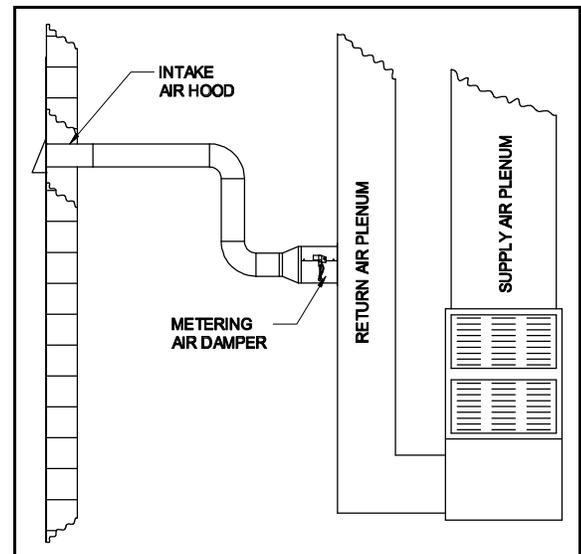

Figure 3
4. Connect flex duct or standard duct piping from the intake hood to the metering air damper. Fasten and support piping, so no straining of the metering air damper exist. (See Figure 3)